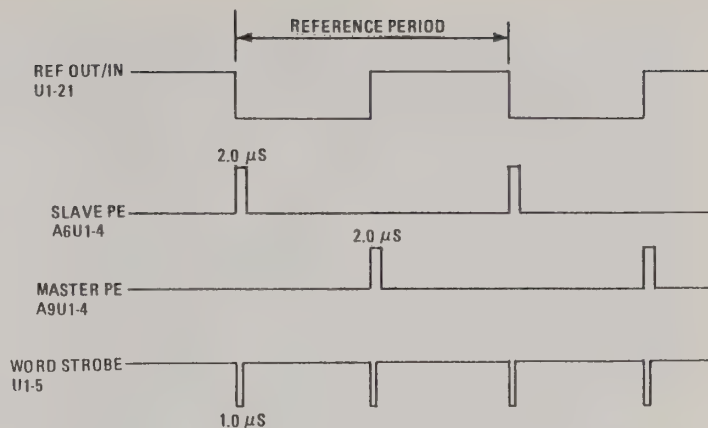

Figure 2. LSI Timing
4.04 Since the Master LSI A9U1, the Slave LSI A6U1, and the PROM A9U3, all share the same divider data lines (B1 through B8), clock signals derived by Master LSI A9U1, from the reference signal, are used to control the Master and Slave LSI's so that they alternately look at the PROM divider data lines even though the PROM data is presented to both A9U1 and A6U1 in parallel. Synchronization of the two LSI's is controlled by the Master LSI. The REF OUT signal A9U1-21 provides a clock signal to the Slave LSI that is 180° out of phase from the Master LSI clock, thus all Slave LSI operations are one-half clock cycle apart from the Master LSI operations. PROM Data is read into the appropriate LSI when its PROM Enable line is High (either A9U1-4 or A6U1-4). The $\div N$ information for each frequency is stored in the PROM as two 8-bit words. Every reference cycle (240 μsec for the 4.16 kHz reference, and 200 μsec for the 5 kHz reference) the PROM Enable line (U1-4) goes High for 2.0 μsec to read the $\div N$ information from the PROM (see figure 2). For the first half of the PROM Enable pulse, the Word Strobe signal (U1-5) is High and selects the least significant word by addressing the PROM at A9U3-17. When the Word Strobe signal goes Low for the second half of the PROM Enable signal, the most significant word is presented to the appropriate LSI.